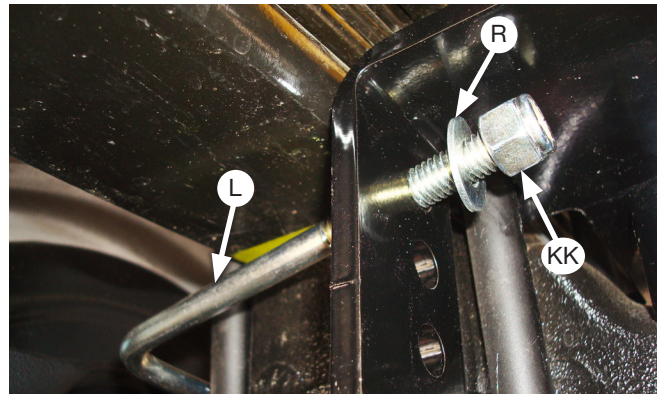

Fig. 33
- Cap with the U-bolt (L), 3/8" flat washer (R) and 3/8" nylon lock nuts (KK) (Fig. 33). Snug bolts evenly, just enough to hold the lower bracket main plate flush against the stock U-bolts.